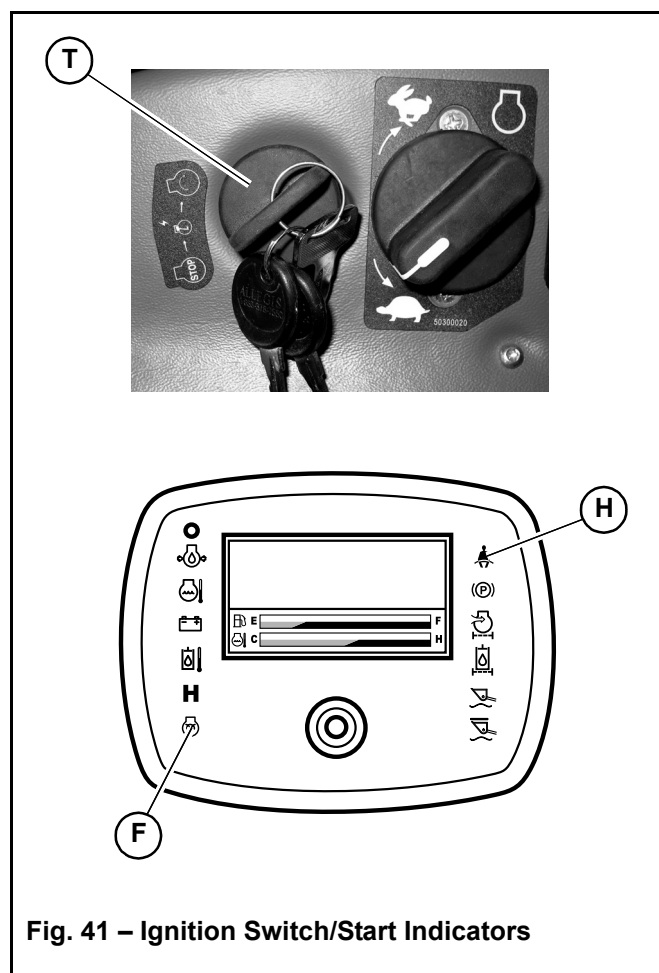

Fig. 41 – Ignition Switch/Start Indicators
6. Insert the ignition key into the ignition switch (T, Fig 41) and turn the key clockwise to the first detent. Indicators on the multi-function display should light up; a beeping tone will sound for a few moments as a reminder to fasten the seat belt. The battery voltage and pre-heat indicators might stay lit for 3-30 seconds.
1. Check that charge (F, Fig 41) indicator goes out after the engine starts.